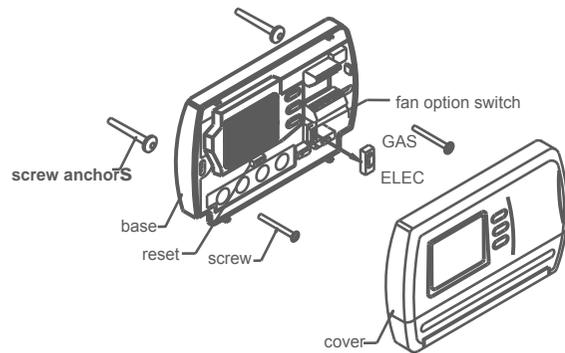

Figure 1
8. Fasten the base loosely to the wall as shown in Figure 1, using two mounting screws. Place a level against the bottom of the base and adjust until level, then tighten the screws. (Leveling is for appearance only, and will not affect thermostat operation.)
Read the following information before setting the fan option switch (See figure 1). If you are unsure of your application, contact a qualified service person.
If a voltage spike or static discharge blanks out the display or causes erratic operation, you can reset the thermostat by pressing the reset button (see figure 1). If the thermostat has power, has been reset and still does not function correctly, contact your heating/cooling service person or place of purchase.
The configuration menu allows you to set certain thermostat operating characteristics to your system or personal requirements. Move the **SYSTEM** switch to the **OFF** position, then press and hold the **PRGM** and **RUN** buttons for 3 seconds to enter the configuration menu. The display will show the first item in the configuration menu. Press the **PRGM** button to move to the next menu item, or press **TIME** to return to a previous menu item. To revert to factory default settings, press the **RESET** button (See Fig. 1). All user's changed settings will revert to factory default settings, including program settings. Use the **▲** and **▼** buttons to select. To exit the configuration menu and return to normal operation, press the **RUN** button. If no buttons are pressed within 30 seconds, the thermostat will exit the configuration menu.